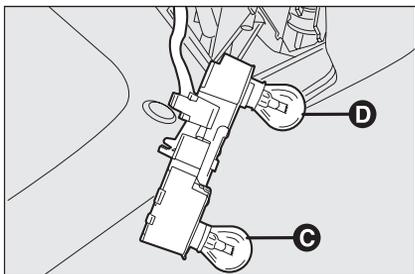

fig. 33
- remove and replace the burnt-out bulb by pressing it slightly and turning it counterclockwise **fig. 33**: